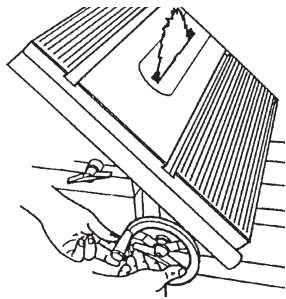

Figure 42
- Lower the Worktable so the Saw Blade extends through the slot. See Figure 42 Lock the Table Height.